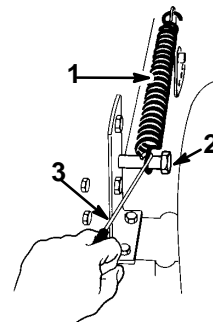

Figure 46
15. Hook the height-of-cut lift assist spring onto the retaining bolt (Fig. 46), using the spring tool provided with the machine.